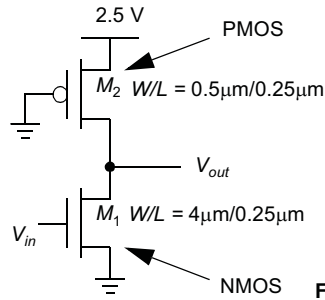
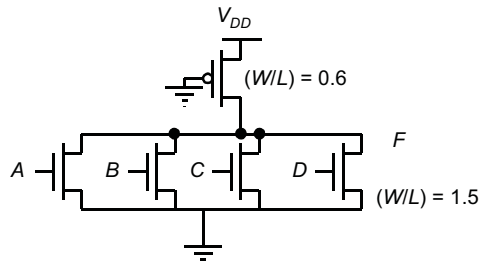

Figure 6.4 Pseudo-NMOS inverter.
Figure 6.5 Pseudo-NMOS gate.
7. [E, None, 4.2] Compute the following for the pseudo-NMOS inverter shown in Figure 6.4:
- c. The power dissipation: (1) for V_{in} low, and (2) for V_{in} high
8. [M, SPICE, 4.2] Consider the circuit of Figure 6.5.